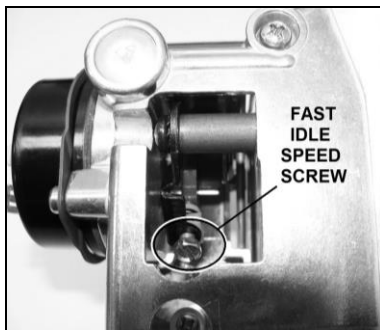
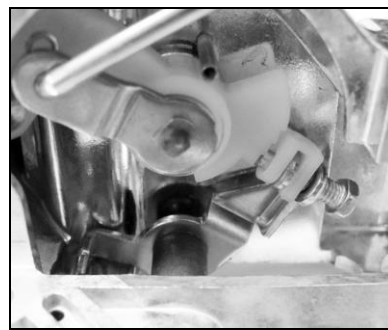

Figure 11
Figure 12
1. There are two primary adjustments: the fast idle adjustment screw and the choke timing. The fast idle adjustment screw controls how far the primary butterflies are open when the choke butterfly is closed or partially closed. It controls how fast the engine will idle during cold engine warm up. The fast idle adjustment screw is located on the bracket that is screwed to the throttle shaft, behind the choke housing (Fig. 11). Fast idle can be increased by turning the fast idle screw clockwise, or decreased by turning it counter-clockwise. It is important to note that when the choke butterfly is open completely (vertical up and down), the fast idle adjustment screw must not be holding the primary butterflies open at all. In other words, when the fast idle adjustment screw is at the lowest step on the fast idle cam, it must not be touching (or making contact) the fast idle cam. See Figure 12 for a view of how the fast idle screw rides on the steps of the cam.